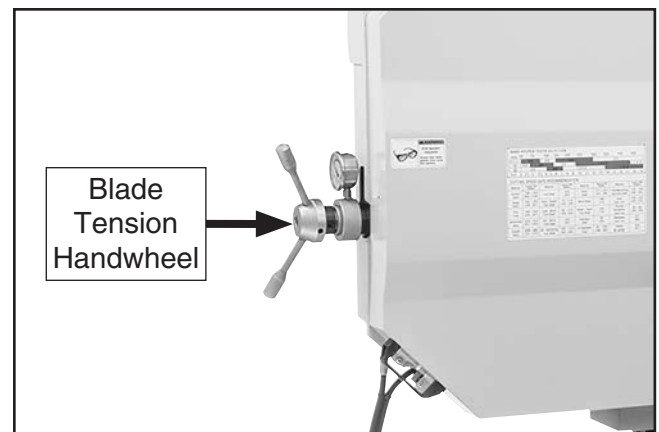

Figure 30. Location of blade tension handwheel.
7. Release blade tension by turning blade tension handwheel counterclockwise (see **Figure 30**).